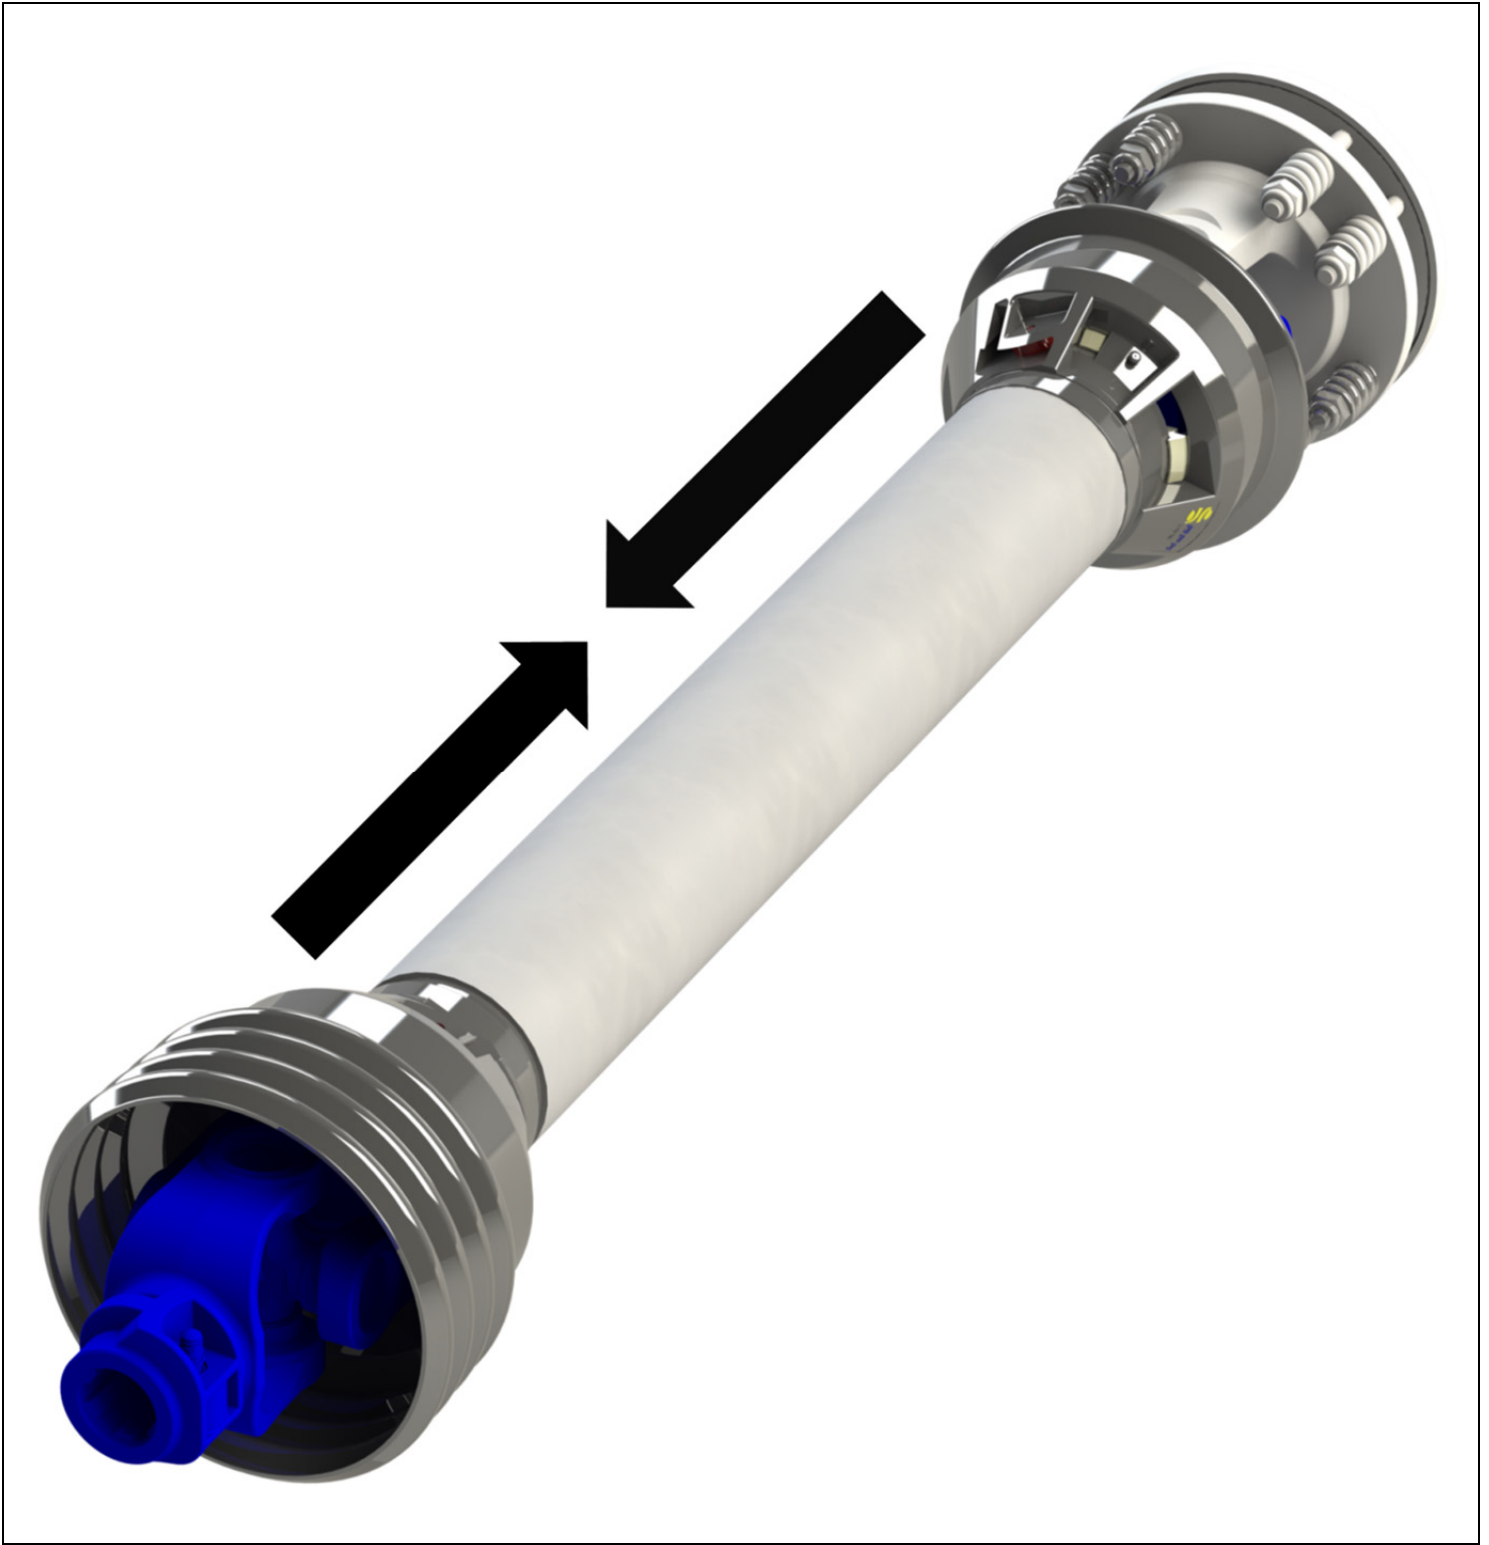

Figure 29. Assembly Step 6
6. With the bearing clips engaged, combine the two ends of the driveline. For an assembled driveline, please refer to *Figure 29*, below.